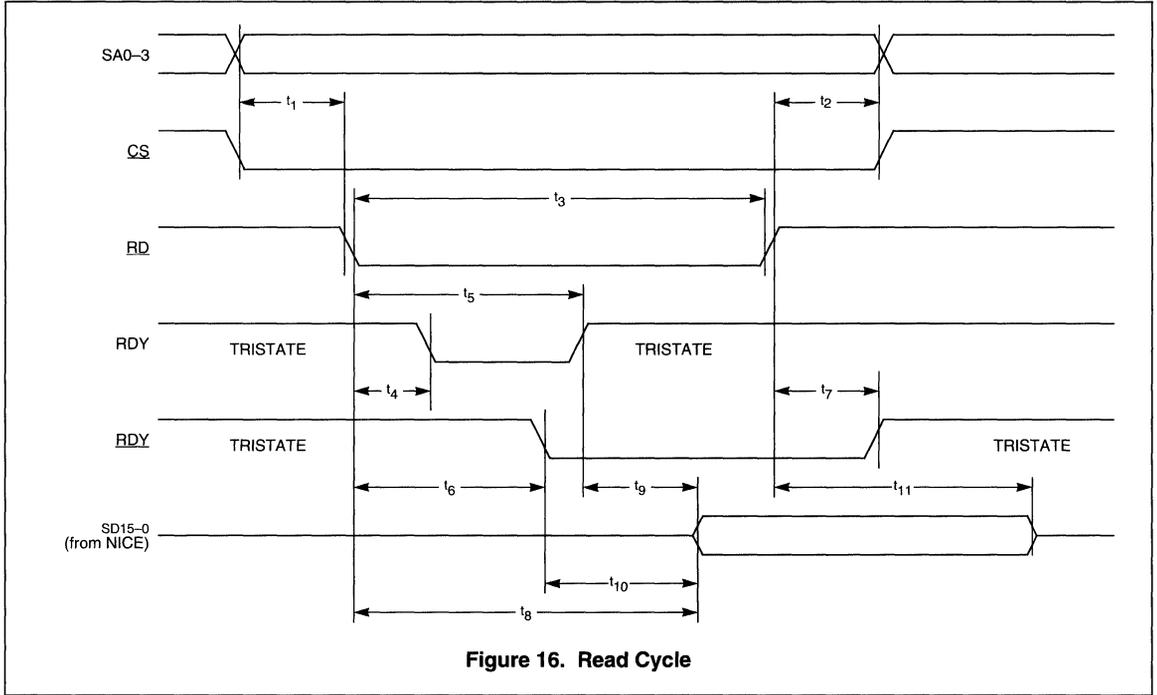
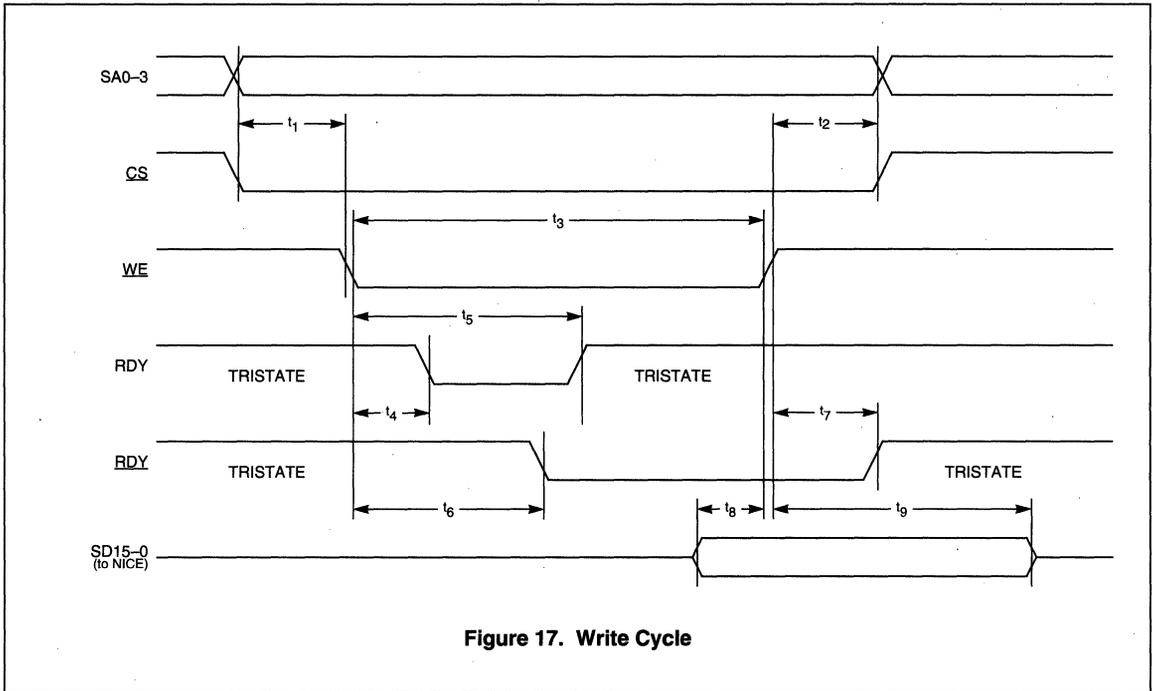

Figure 16. Read Cycle
Figure 17. Write Cycle
3. For RDY(RDY) timing and SD15-0 timing, see Figure 16, t_4 - t_{11} , and Figure 17, t_4 - t_9 .
3. For RDY(RDY) timing and SD15-0 timing, see Figure 16, t_4-t_{11} , and Figure 17, t_4-t_9 .